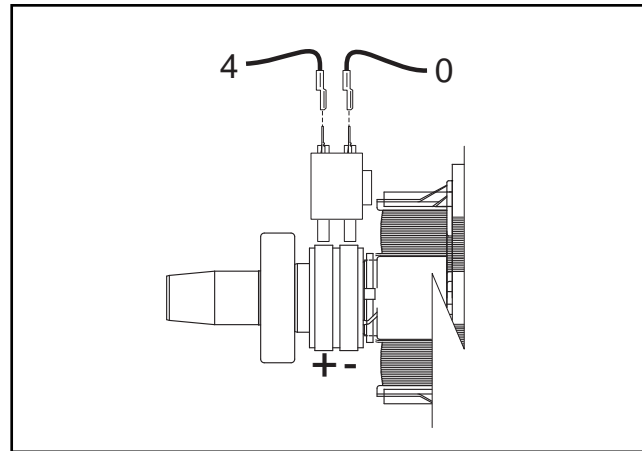

Figure 8. Checking Brushes and Slip Rings
1. See Figure 8. Carefully inspect brush wires; make sure they are properly and securely connected.